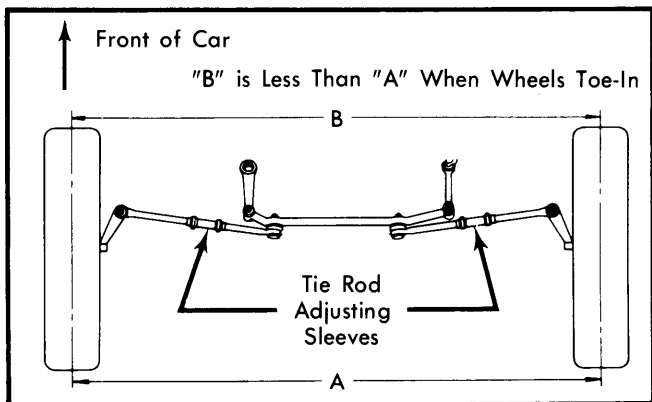

Fig. 2 Adjusting Tie Rod Sleeves (Top View)
- 6) If steering wheel is not centered with front wheels in straight ahead position, correct by shortening one tie rod adjusting sleeve and lengthening opposite sleeve. See Fig. 2.